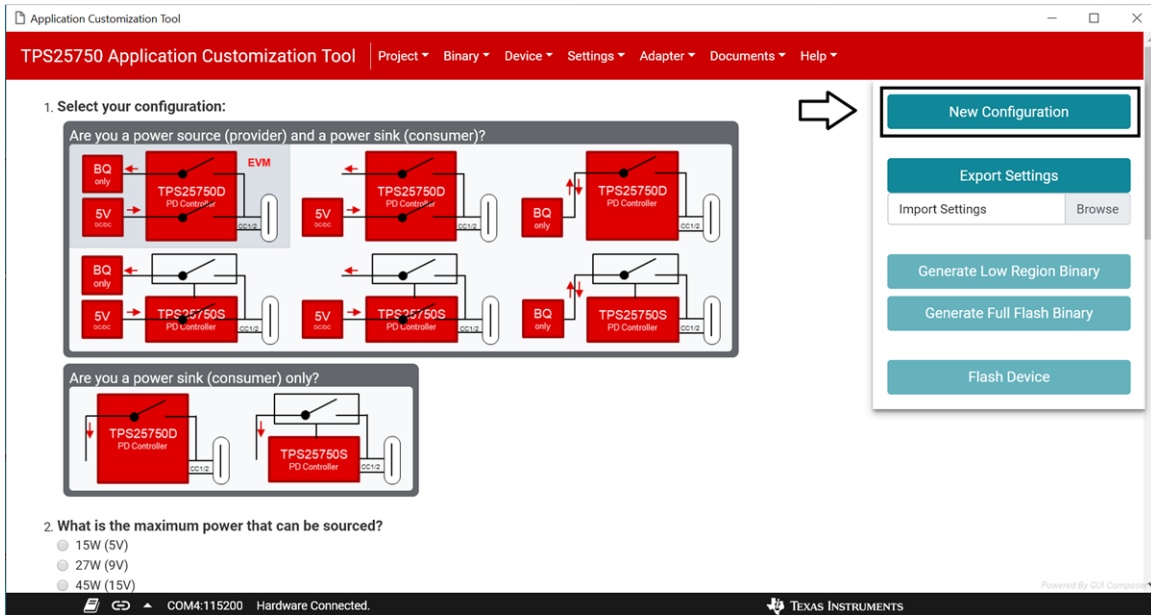

Figure 3-1. Button to generate a new configuration is pointed to by the arrow
- Select the *New Configuration* button on the right side panel. See Figure 3-1.